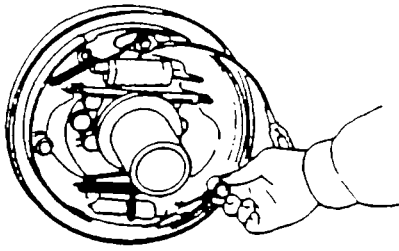
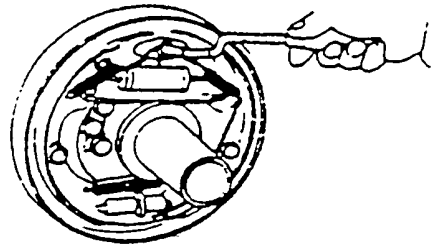

Fig. 2-23
Fig. 2-24
- (5) Install the brake cable assembly on the backing plate with an E-retainer.
- (6) Install shoes on the backing plate with hold-down springs. See Fig. 2-23.
- (7) Put the spring on the parking push rod then install the rod on the shoe.
- (8) Install the shoe guide plate on the anchor pin, and install the shoe return spring on primary brake shoe firstly and secondary brake shoe secondly. See Fig.2-24.